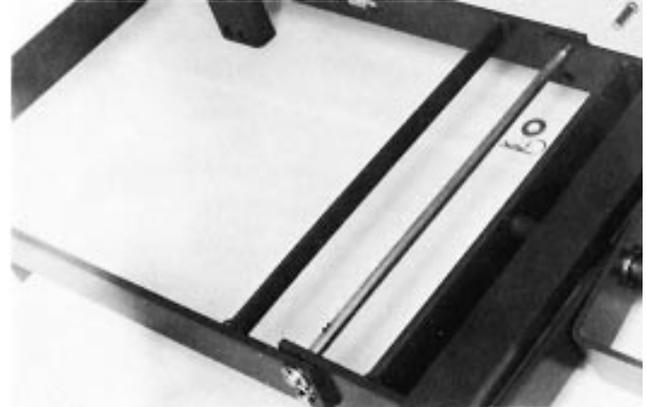

Figure 10
11. With the carrier frames positioned as shown in Fig. 10, insert the long pivot rod through the top holes in the frames and (2) 1/2" x 1-1/4" clevis pins through the lower holes.
12. Secure the pivot rod to the frame with (2) 1/2" washers and (2) 1/8" x 1" cotter pins (Fig. 10).
13. Secure the clevis pins with (2) 1/2" washers and (2) 1-7/8" hairpin cotters (Fig. 10).